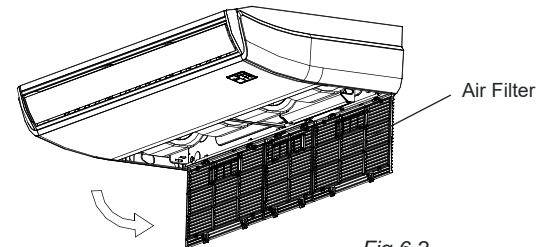

Fig.6-2
- Remove the air filter. (Refer to Fig. 6-2)
- Re-install the air filter in the reverse order of Fig. 6-2.